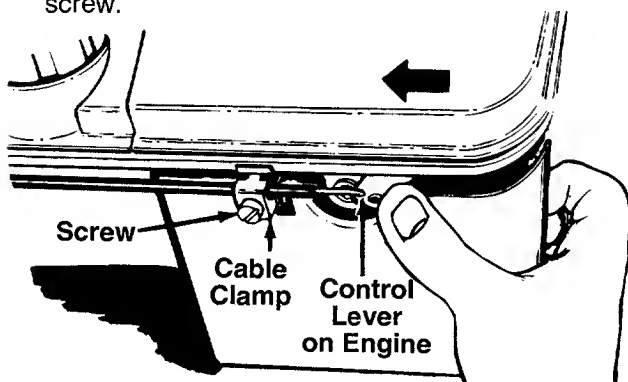

FIGURE 8.
1. Remove the screw shown in figure 8. Remove the cable clamp from the cable.